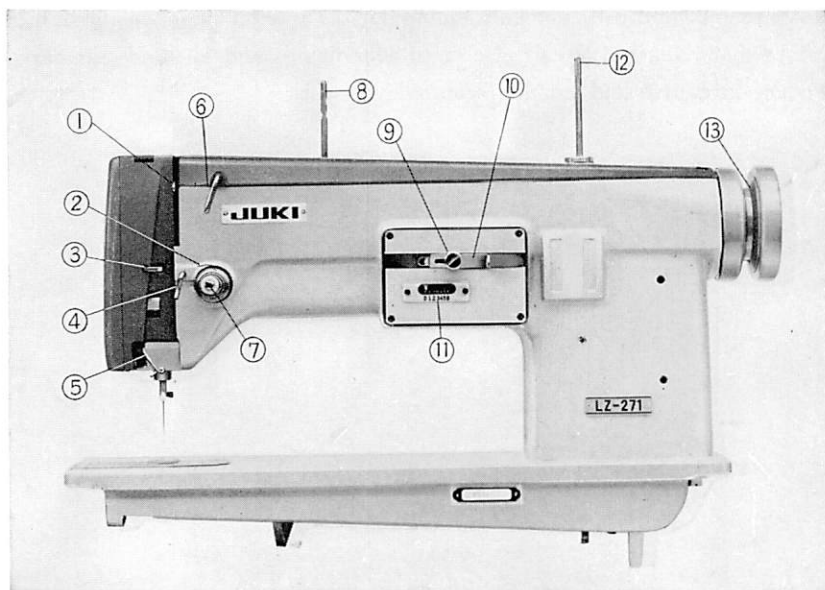

Fig. 2
Refer to Fig. 2 for the names of parts of this machine
To pass the needle thread, follow the numerical order as shown in Fig. 8. Start from the needle thread guide pin ①, (not shown in Fig. 8), to the needle ⑨ in order. (Refer to Fig. 2 for complete view)
- ② Three-hole thread eyelet
- ③ Tension disc
- ④ Take-up spring
- ⑤ Thread take-up guide
- ⑥ Thread take-up
- ⑦ Frame thread guide, upper
- ⑧ Frame thread guide, lower
- ⑨ Needle